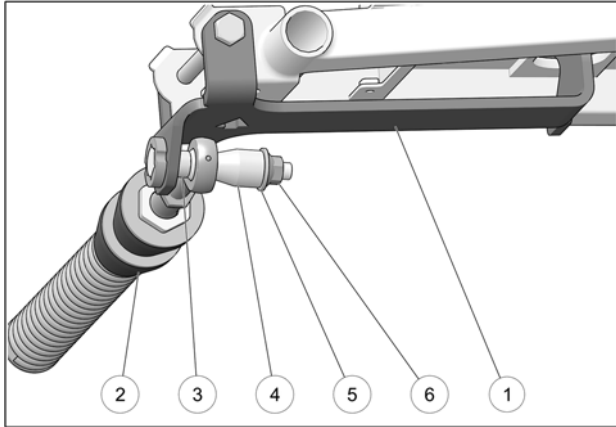

Fig. 10
10. Attach stabilizing rod (2) to anchor bracket (1), using short spacer bushing (3), long spacer bushing (4), flat washer (5) and nut (6). Torque to 70 N•m [52 lb•ft]. See Fig. 10